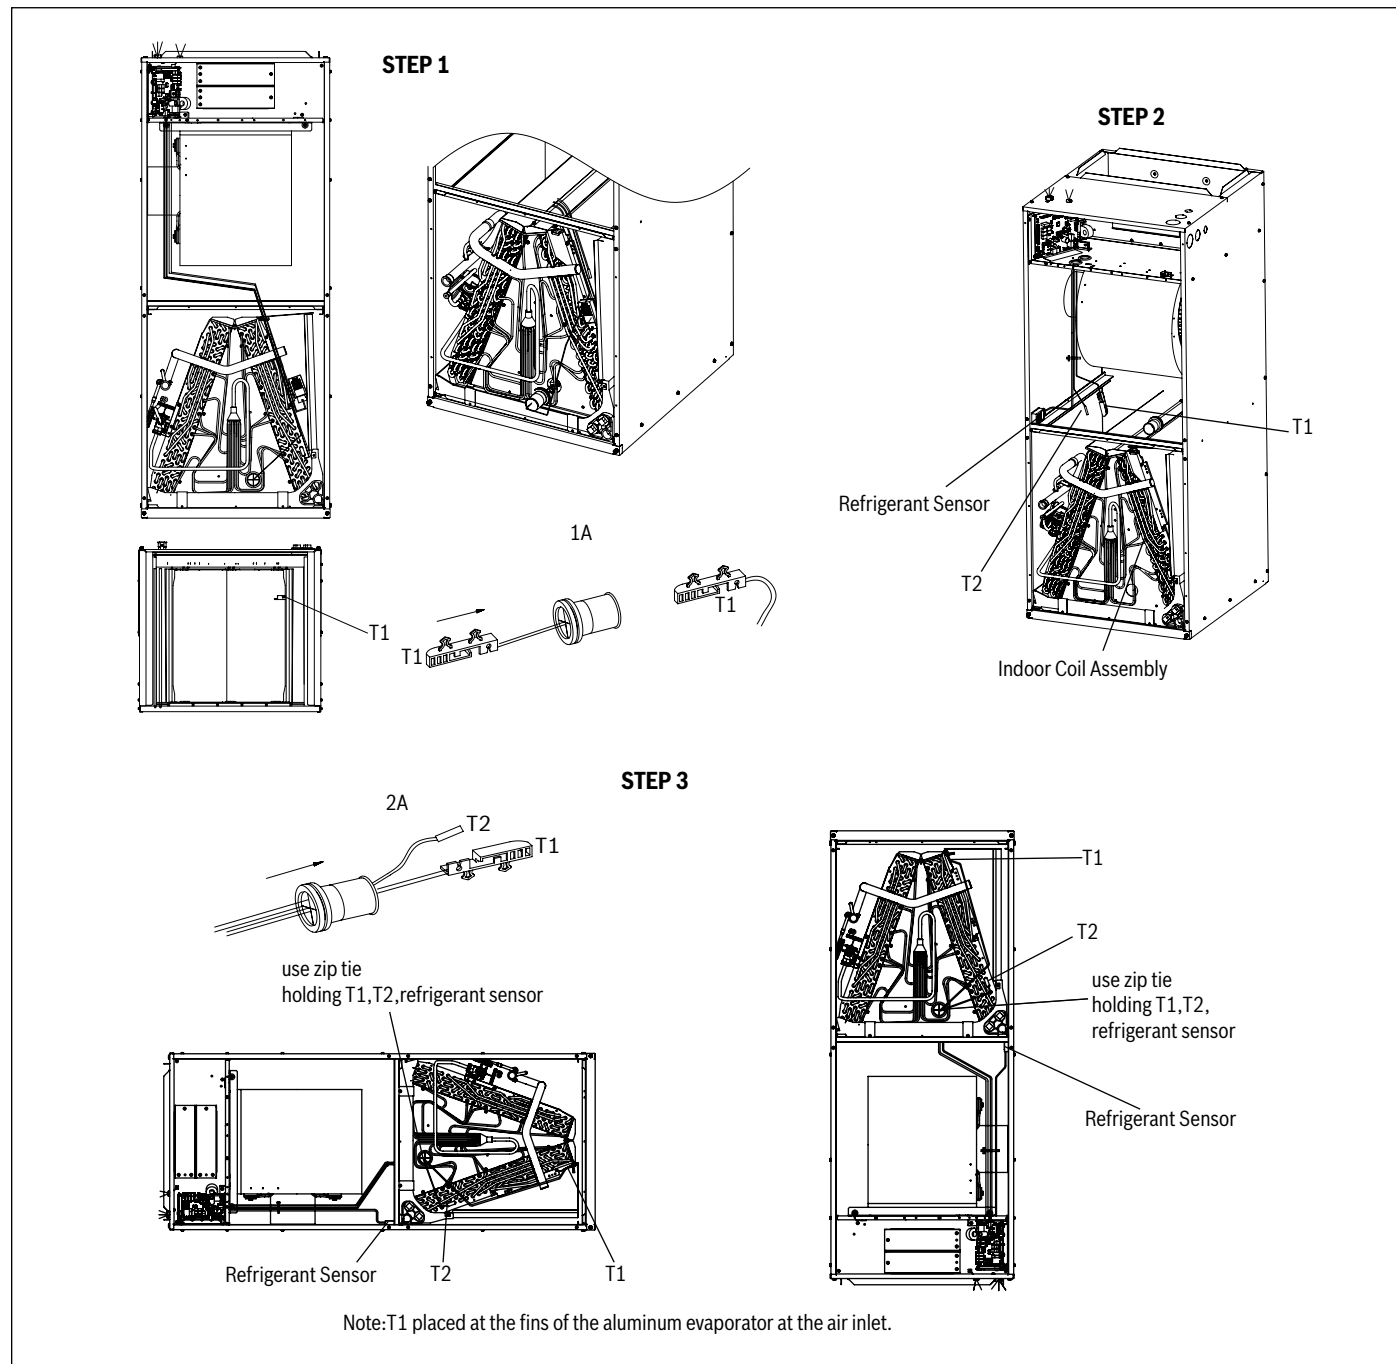

Figure 12 Vertical downflow & horizontal left applications conversion
A vertical upflow unit may be converted to horizontal left by removing indoor coil assembly and the refrigerant leak detection sensor. Reinstall the indoor coil and the refrigerant sensor for left hand air supply. See Figure 12.
- Reinstall the indoor coil 180° from original position. Ensure the retaining channel is fully engaged with the coil rail. See Figures 12 and 13.
2. Remove the A2L refrigerant sensor from the coil and reconnect it to the side of cabinet as shown in step 2. (Figure 12, Step 2).
3. Thread the T1 and T2 sensors through the wire loop as shown in Figure 12 step 2A. Reattach refrigerant, T1, and T2 sensors to the proper location as shown in Figure 12, step 3 using field supplied zip ties to ensure that they can not move around. Ensure that the wire loop is tightened.